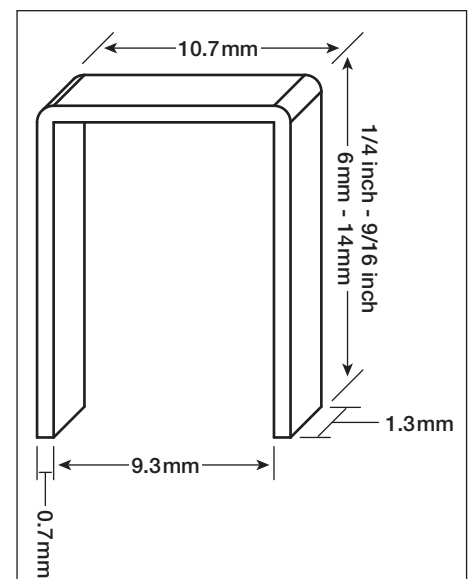

Figure 10
- Arrow T50 staples or any equivalent fastener with the approximate dimensions illustrated in Figure 10